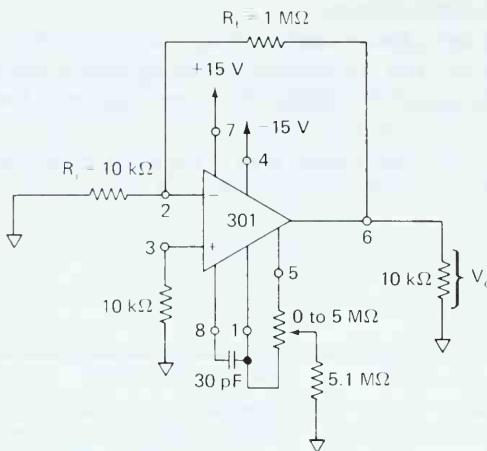

FIGURE 9-9 Circuit for Example 9-6.
A 301 op amp in the circuit of Fig. 9-9 has the following drift specifications. As temperature changes from 25°C to 75°C , I_{os} changes by a *maximum* of $0.3 \text{ nA}/^\circ\text{C}$ and V_o changes by a *maximum* of $30 \mu\text{V}/^\circ\text{C}$. Assume that V_o has been zeroed at 25°C ; then the surrounding temperature is raised to 75°C . Find the maximum error in output voltage due to drift in (a) V_o ; (b) I_{os} .
- 9-13.** In Fig. 9-9, V_{io} changes by $\pm 1 \text{ mV}$ when the temperature changes by 50°C . What is the change in V_o due to the change in V_{io} ?
- 9-14.** I_{os} changes by $\pm 20 \text{ nA}$ in Fig. 9-9 for a temperature change of 50°C . What is the resulting change in V_o ?